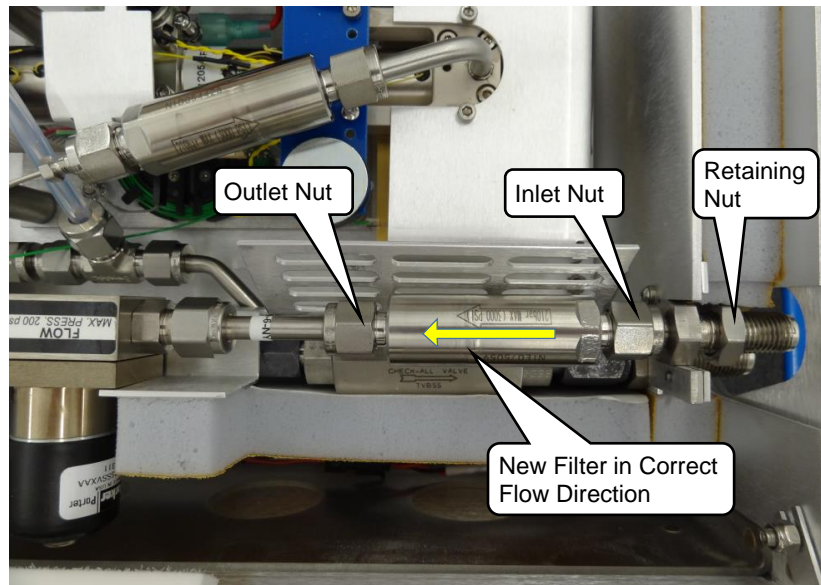

Figure 49: Filter Installation – Ensuring Correct Flow Direction
When installing the new filter, to ensure proper gas flow direction, make sure the arrow on the filter is pointing away from the back panel of the analyzer as shown in Figure 49.
2. Position the new filter between the inlet and outlet fittings and attach the inlet and outlet nuts to each end. The flow direction arrow on the filter should point away from the analyzer rear panel (Figure 49).